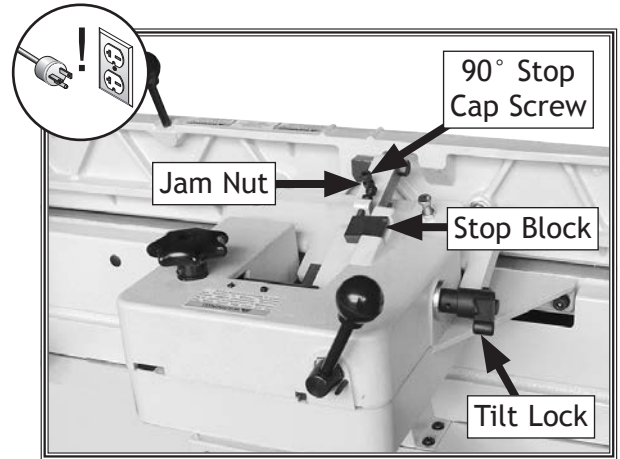

Figure 55. Fence set to 90°.
2. Loosen fence tilt lock, rotate stop block down, and position fence approximately 90° onto stop cap screw (see Figure 55).
4. Loosen jam nut on 90° stop cap screw and adjust cap screw until fence is exactly 90° while cap screw is resting on stop block (see Figure 55). Verify angle, then retighten jam nut.